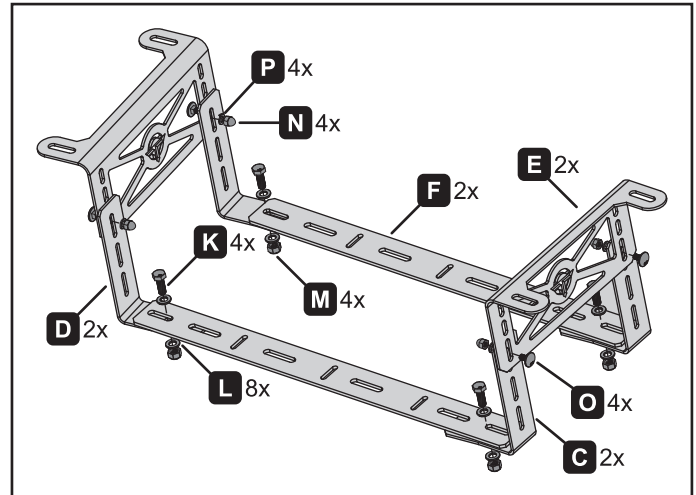

Figure 1.
3. Temporarily install bed brackets (E).
4. Using the driver (C) and passenger (D) side bed brackets determine the desired height of the assembly. Note the location of the bed mounts (C, D) in relation to the brackets (E) and mark their location if needed.
5. Remove all items from the machine, and assemble the mounts (C, D) and brackets (E) utilizing included hardware (N, O, P). See figure 1.
7. With the drop brackets installed, place the crossbars (F) spanning across the brackets.
8. Using supplied fasteners (K, L, M) loosely secure the crossbars to the brackets (figure 1).